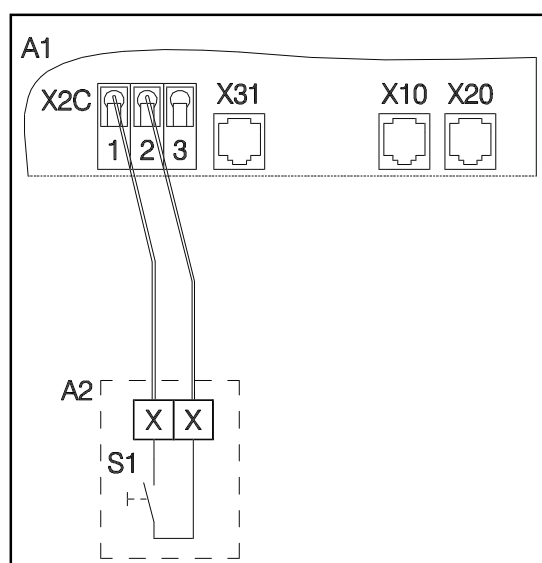

Fig. 9: Connection impulse button
- Connect the impulse button via terminal X2C, contact 1 and 2, to the control unit (A1), as shown in fig. 9